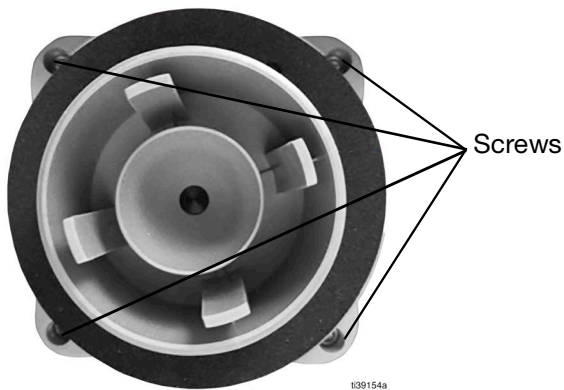

FIG. 7
2. Remove the four screws that keep the case together (FIG. 7).